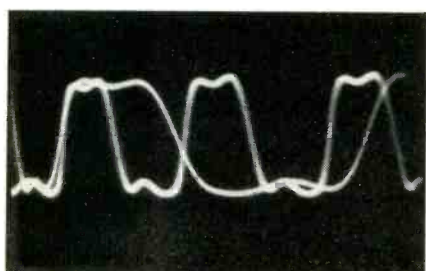

Fig. 3—Scope pattern indicates poor overall frequency response.
A. This situation, shown in Fig. 3, shows poor low-frequency response, poor high-frequency response, and abnormal medium-frequency response.